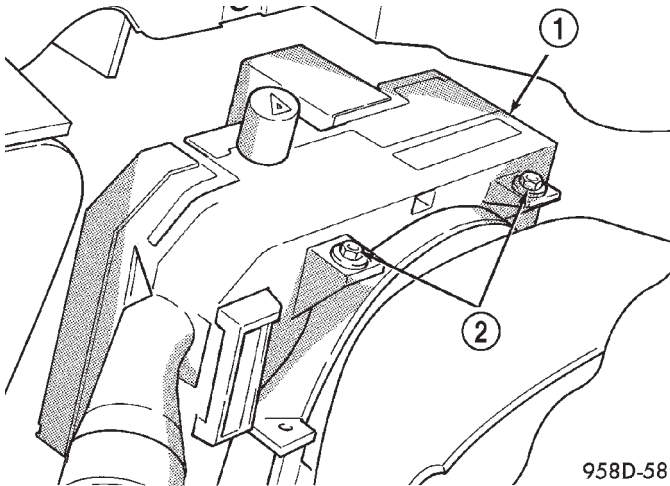

Fig. 22 Multi-Function Switch Removal/Installation
(10) Tilt wheel to full down position and remove upper steering column shroud.
(11) Remove screws holding multi-function switch to lock housing (Fig. 22).